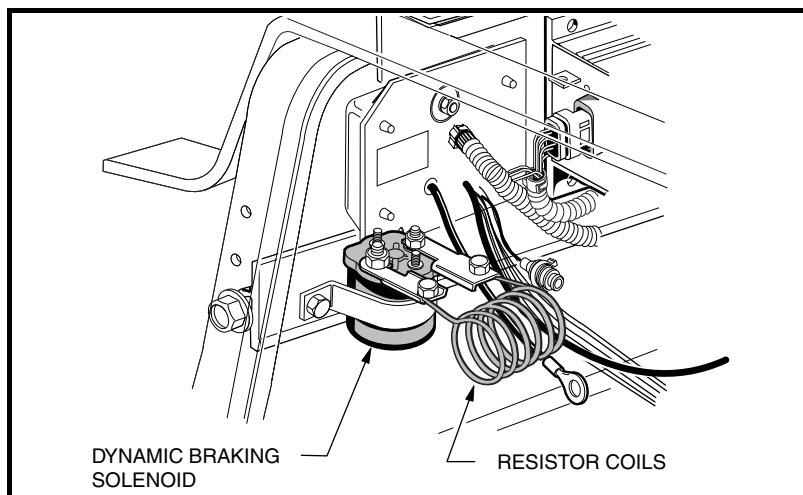

Figure 12-14 Energy Displacement Module
1. Installation is reverse of removal. Position the coil ends as shown in **Figure 12-5, Page 12-6** and tighten the nuts (6) to 75 in.lb (8.5 N-m). **See also Figure 12-14, Page 12-18. See following CAUTION.**